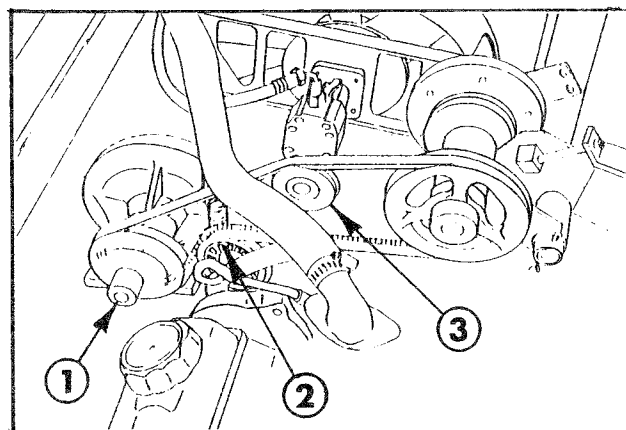

FIG. 5
13. Install the pump drive belt on the pulleys as shown in FIG. 5. After installation of the belt, loosely mount the backside idler pulley in the long slot on the idler pivot bracket using 3/8" x 2" carriage bolt, 3/4" spacer, hex nut, and (2) flat washers. With the belt on the topside of the idler pulley, slide the pulley up until all the slack is removed from the belt, then tighten the nut on the carriage bolt. To apply tension to the belt, place the inside idler pulley under the belt. See FIG. 5.